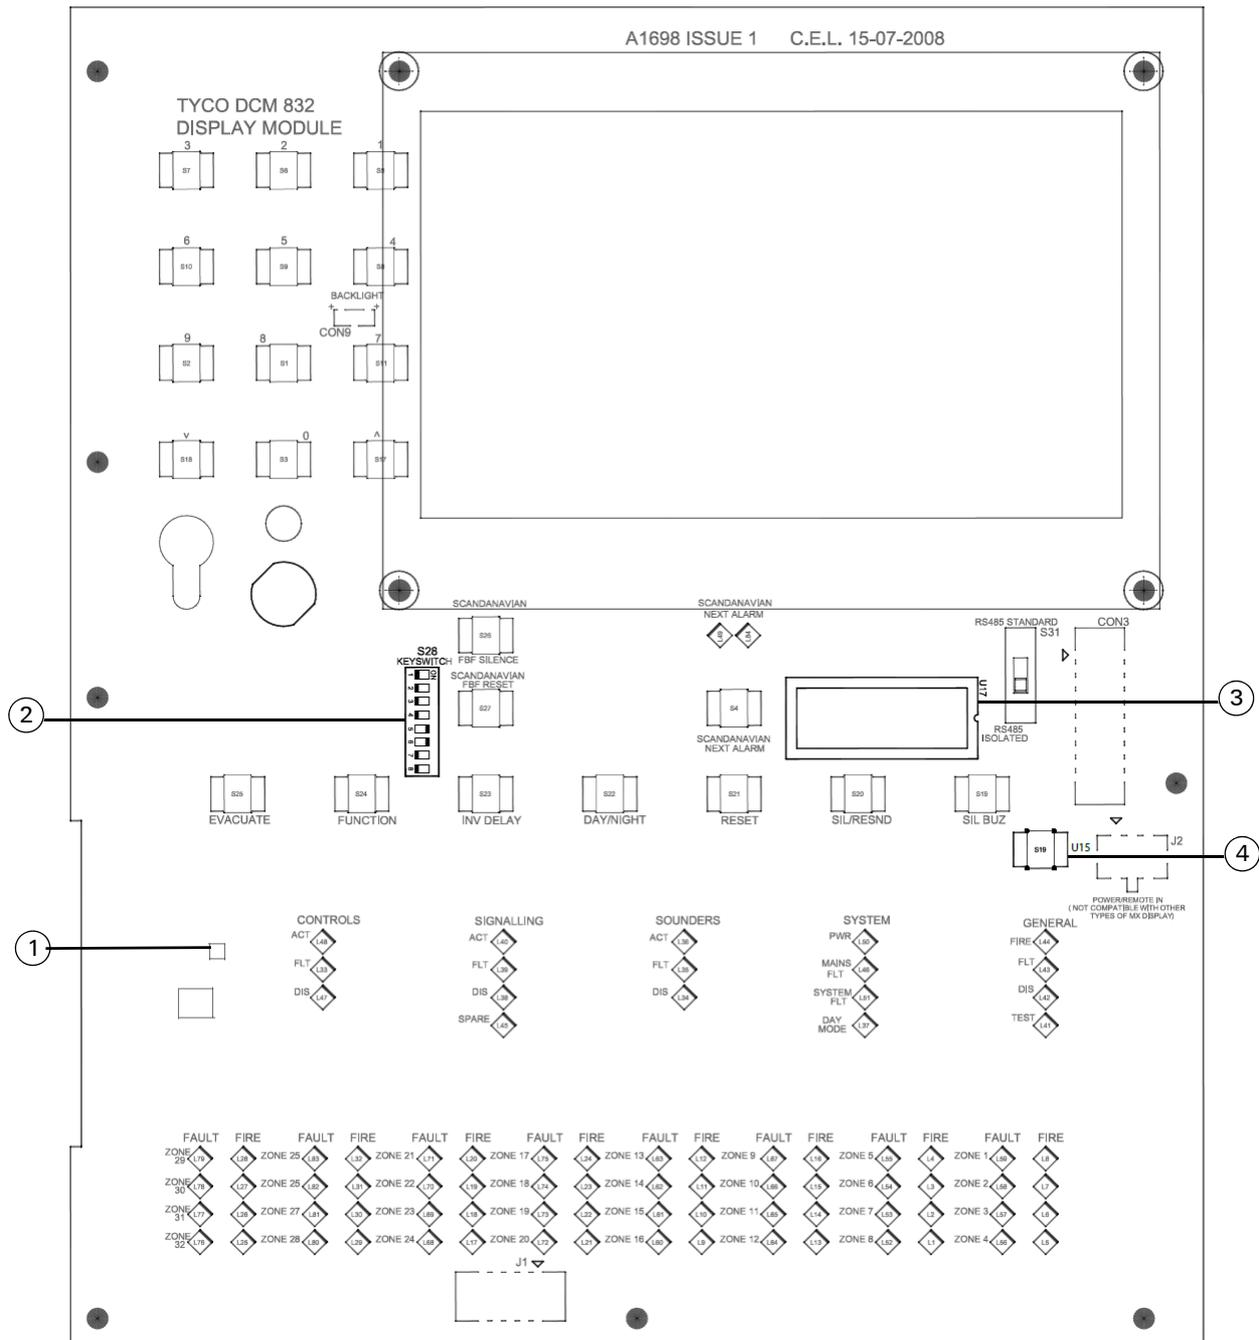

Fig. 25: S28 Position - DCM864R and DCM8240R
- For a DCM864R refer to Fig. 25. The switch is labelled **S23** on the circuit board.